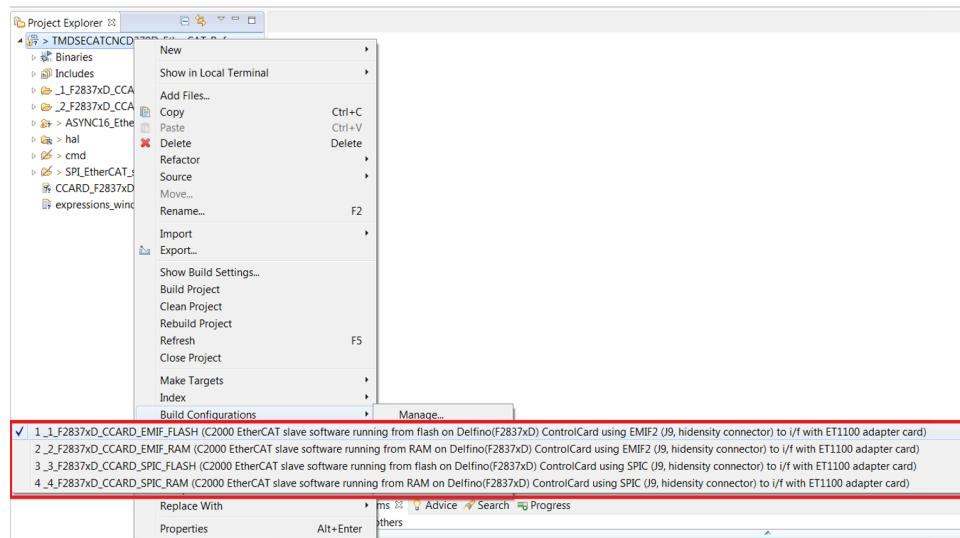

Figure 23. Select Build Configuration
5. Right-click on the project and select the build configuration. Choose the build configuration matching the PDI configuration selected in SSC tool for C28x configuration and the SW1 switch setting on the TMDSECATCNCD379D kit (see Figure 23).